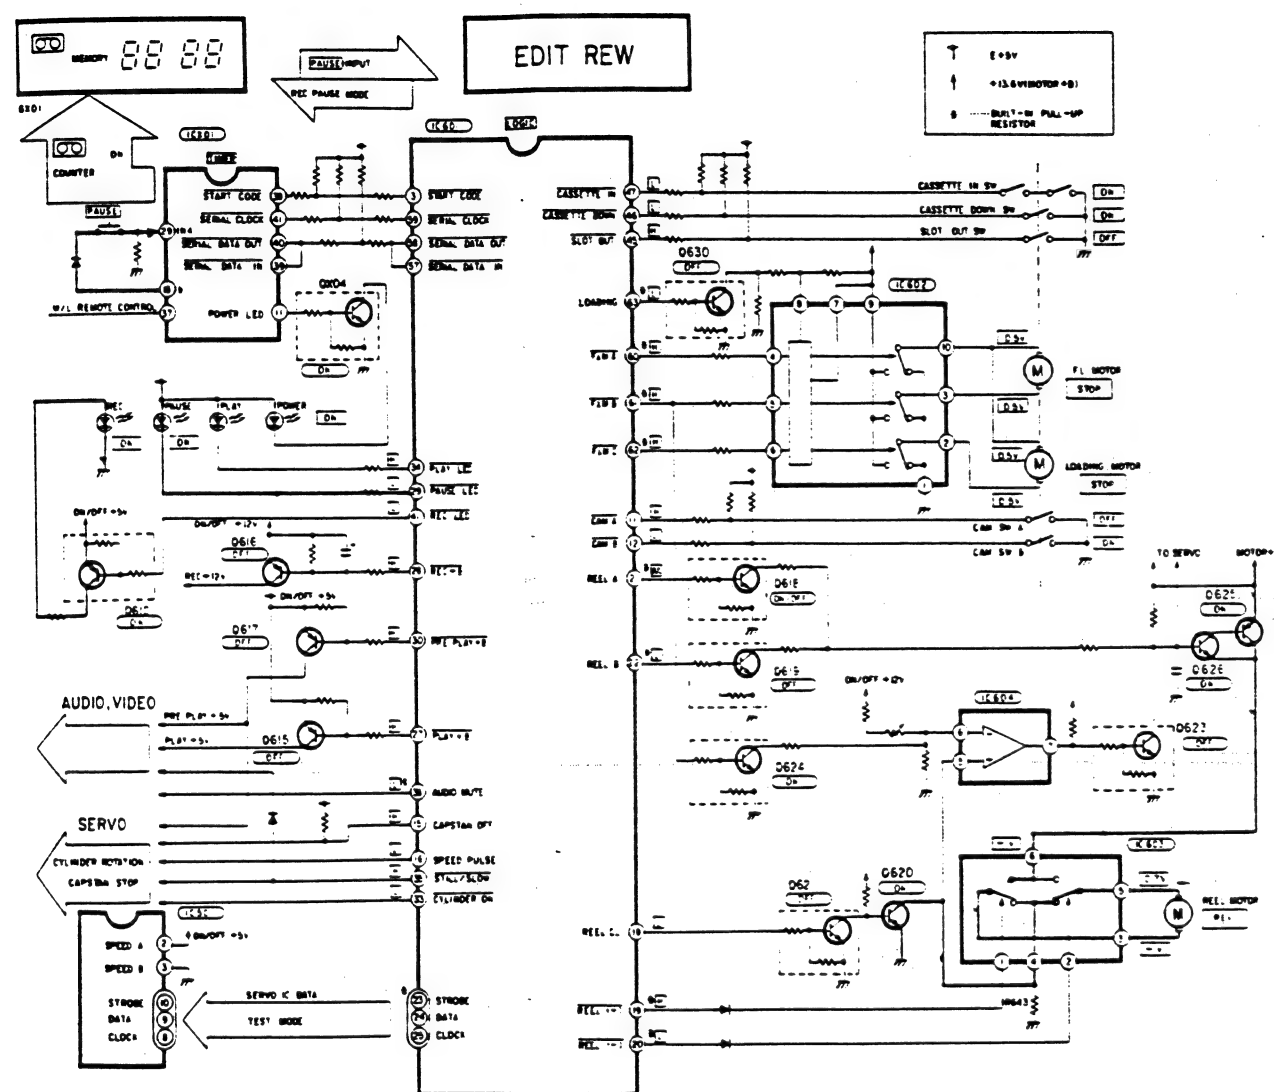

Fig. 3-5-2
3. Each pin of IC601 develops output as shown in Fig. 3-5-2 and the record LED and pause LED light up. Pin 28 develops "H" level output and Q616 turns OFF. Then the audio and video signals are muted.